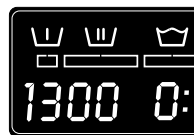

fig. 20
- You can reduce the spin speed or remove it completely by pressing the spin button (Figure 20).